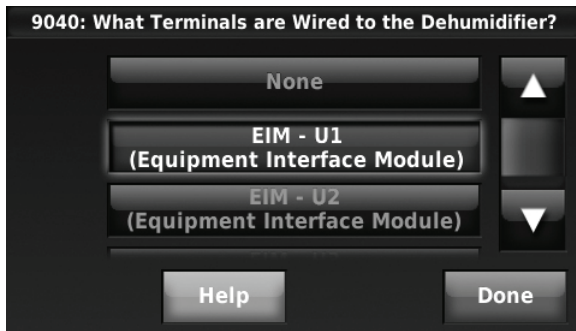

Fig. 249.
4. Select the terminals wired to the Dehumidifier. See Fig. 249.